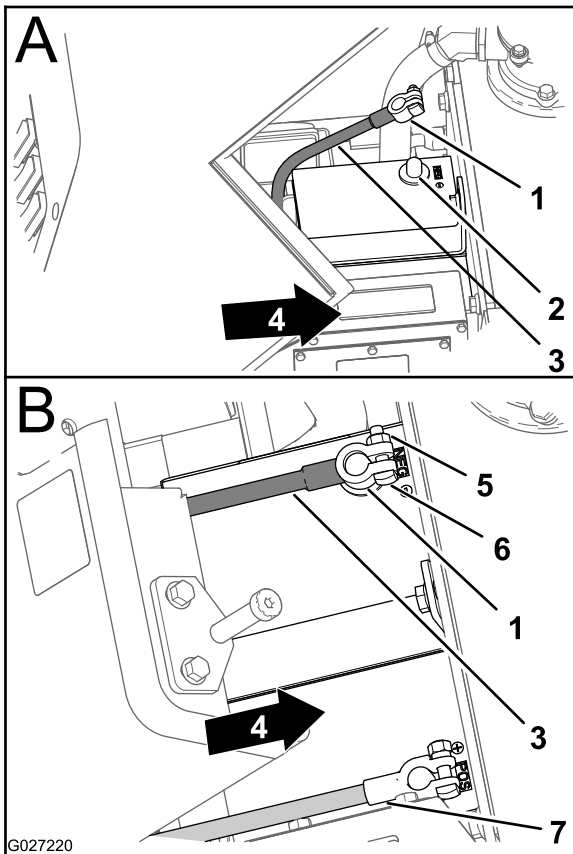

Figure 2
1. Verify that the positive (red) cable clamp is securely connected to the positive post of the battery (Figure 2).
2. Align the clamp of the negative (black) cable to the negative post of the battery (Figure 2).
3. Fully seat the terminal onto the post (Figure 2).
4. Torque the nut (Figure 2) and the T-bolt for the negative cable clamp to 678 to 791 N-cm (60 to 70 in-lb).